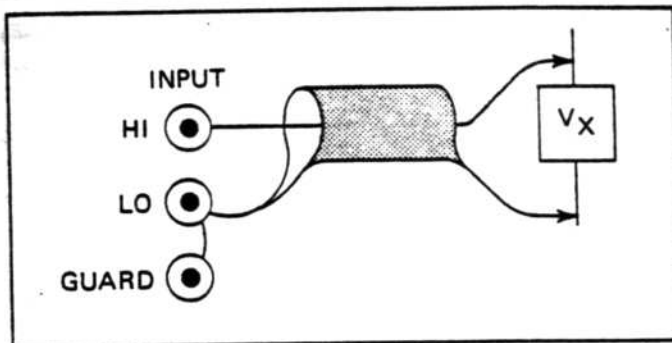

Figure 3.2 - DC, AC Measurement Connections Using Coaxial Cable
3.4.3.4 Connect the DC voltage to the INPUT HI-LO terminals, refer to Figures 3.2 and 3.3.
- Connect the AC voltage to the INPUT HI-LO terminals; refer to Figures 3.2 and 3.3 and read the value from the display, noting the decimal point.